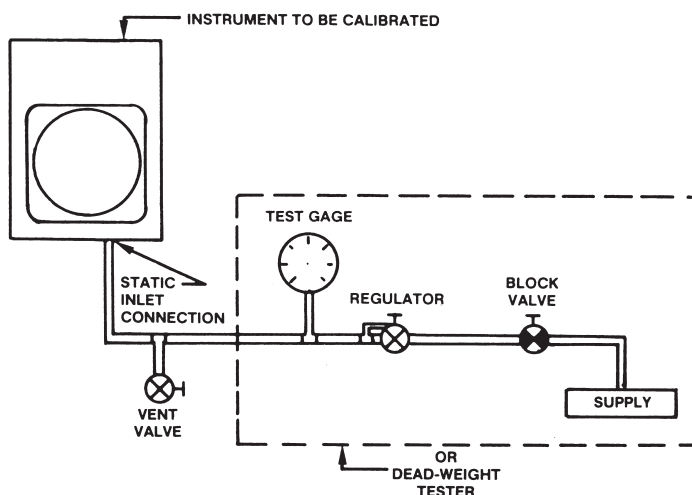

Figure 3.1—Pressure system calibration
1. Connect the recorder to the calibration equipment as shown in Figure 3.1.